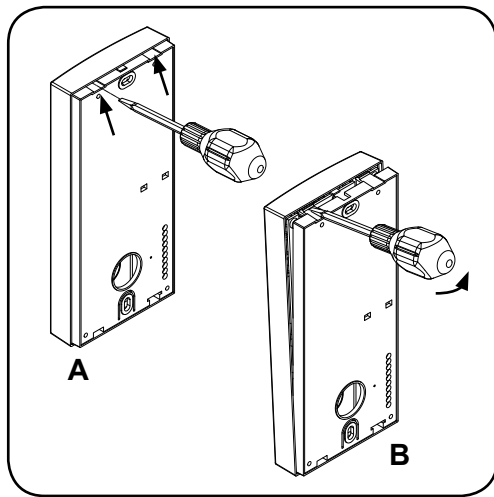

Fig.1
- As show in Fig 1, looking at the rear of the intercom, insert the tip of a flat blade screwdriver into one of the two openings (Fig 1A) then slightly move the screwdriver in an upward direction to release the front from the back plate and opening the intercom unit (Fig 1B). **Take care! The back plate of the intercom houses the pcb connection board which is normally connected to the pcb in the front of the intercom by the ribbon cable, the ribbon cable should not be connected when first opened.**